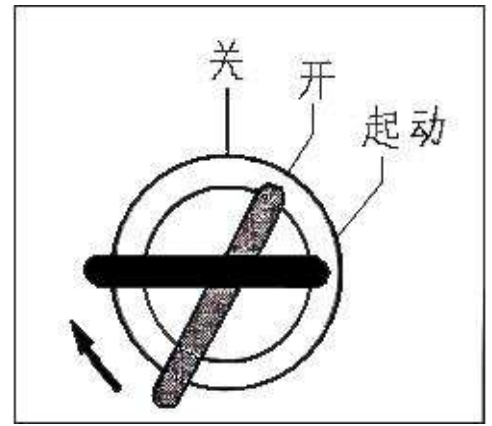

Fig 3-9
5. Put the switch at “start” position, (fig 3-9), the engine will start within 5 minutes.